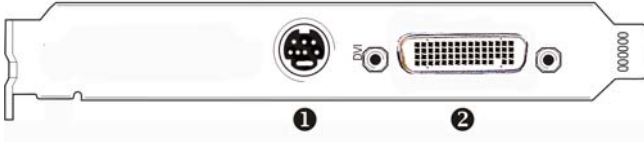

Figure 6:
10. Connect your BARCO CORONIS Displays to the display controller(s) for your BARCO CORONIS Display System using the cables supplied. Make sure all cables are securely connected before turning on your system. Figures 6 - 10 show the types of connections are available: